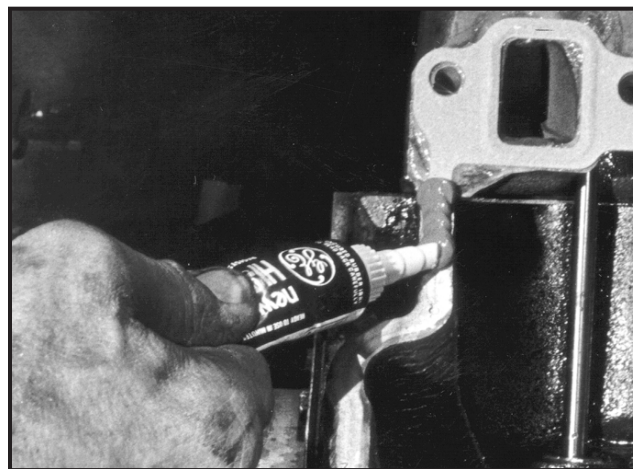

Figure 8
9. Clean all parts and gasket surfaces, install new gaskets and re-assemble the engine. (Figure 8)